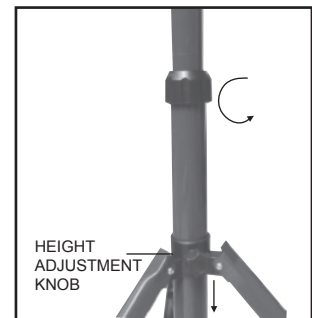

Figure 3
- 4- The tripod legs are adjustable up or down by loosening the knob as shown in Figure 3. Do not adjust the legs by force.